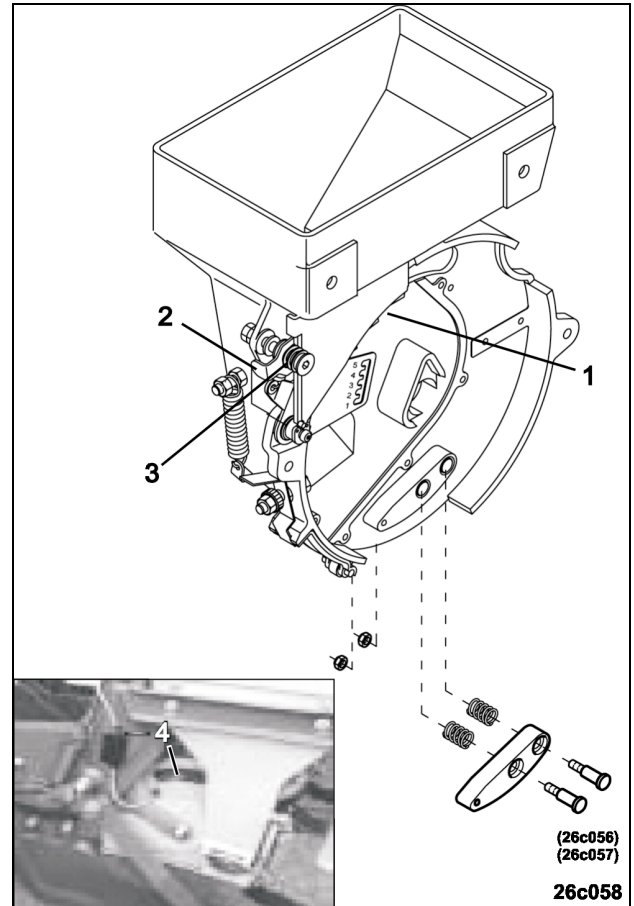

Fig. 68
The scrapers (Fig. 68/1) are designed as a three staggered toothed plastic part which can be set to 5 positions towards the nap holes of the singling disc.
For setting the indicated scraper position hook the setting lever (Fig. 68/2) into the setting bolt (Fig. 68/3).
In Figure (Fig. 68) the scraper position "2" is illustrated.
**Checking either by a person following the implement, who observes the function of the singling units by the wight windows (Fig. 68/4) or a distance is uncovered in the field in order to check the grain spacing.**
**If the seed can be seen through the sight window (Fig. 68/4) more seed is delivered to the seed housing than discharged.**